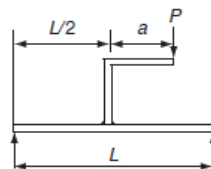

Figure 1 Question 3.
3. A simply supported beam carries a load P through a bracket as shown in Figure 1. The maximum bending moment in the beam is: